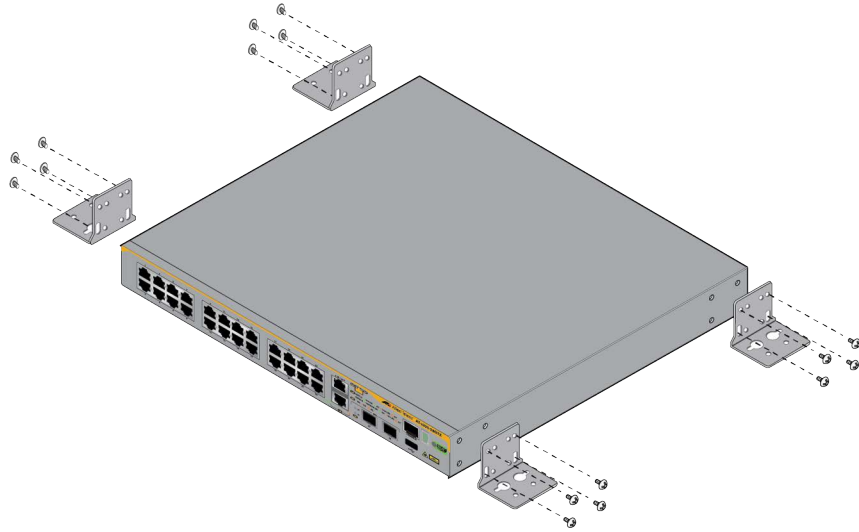

Figure 60. Attaching the AT-BRKT-J24 Wall Brackets to x330-20GTX and x330-28GTX Switches
2. For x330-20GTX and x330-28GTX Switches, attach the four AT-BRKT-J24 wall brackets to the sides of the switch, with the sixteen M4x6mm screws included in the brackets kit. Refer to Figure 60 on page 102.